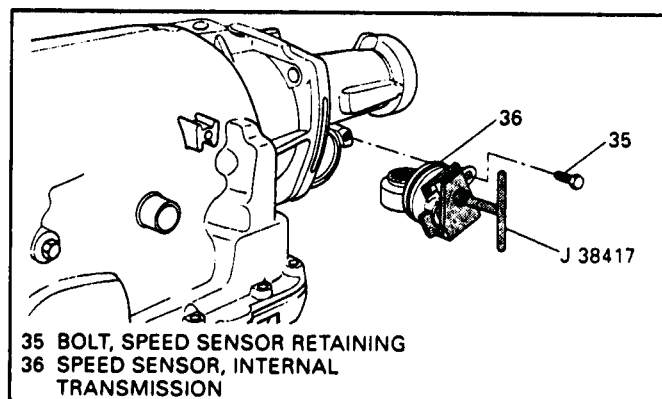

Figure 38
19. Remove speed sensor assembly and the "O" ring seal using J-38417 tool as shown in Figure 38.